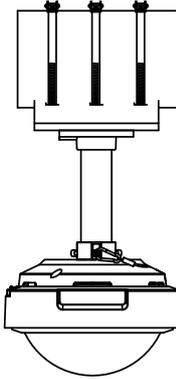

Figure 1-27 Fix the PanoVu Camera
6. Fix the PanoVu camera with the head cover by fixing screws of the head cover and bracket, as shown in Figure 1-27.